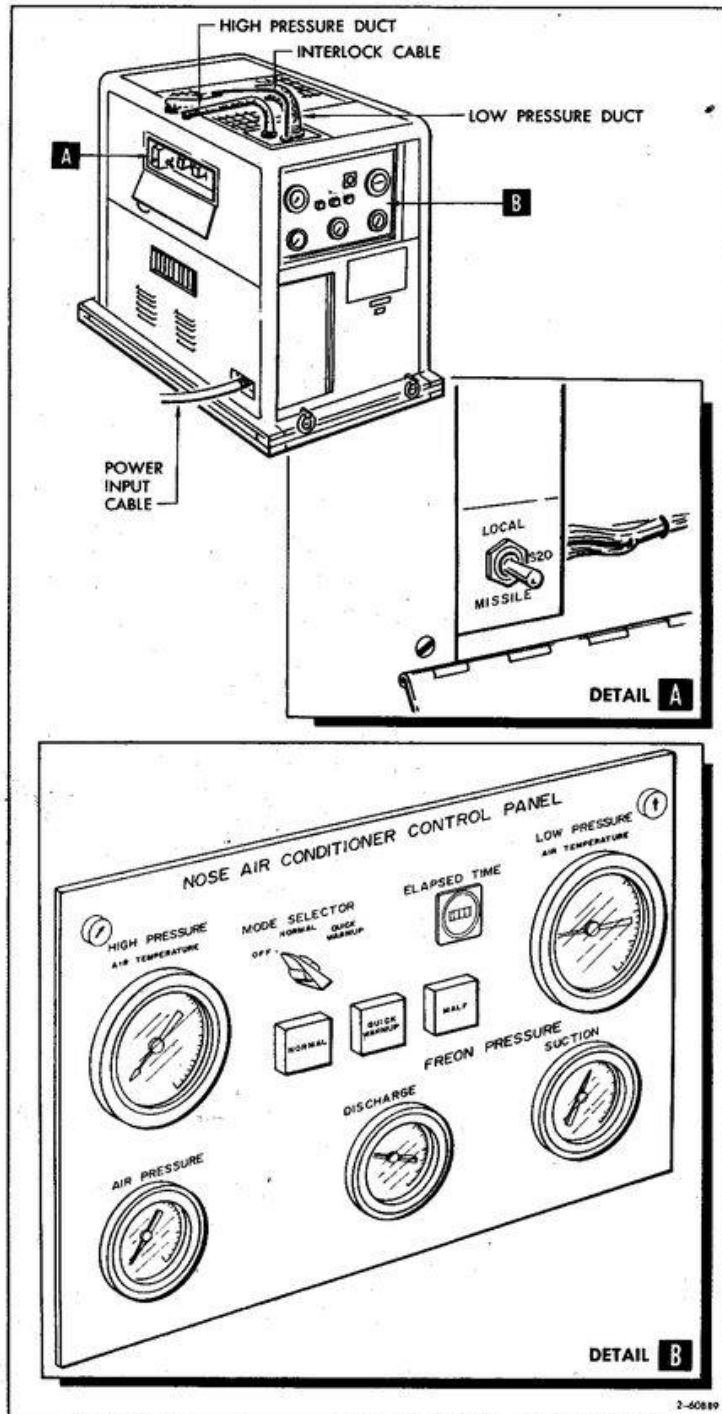

Figure 3-4. Missile Nose Air Conditioner
3-11. CONNECTING MISSILE NOSE AIR CONDITIONER. (Figure 3-4.)
a. Insure MODE SELECTOR switch on MNAC (figure 3-4) is in NORMAL position and MISSILE-LOCAL switch located behind TEMPERATURE CONTROL door on MNAC is in MISSILE position.